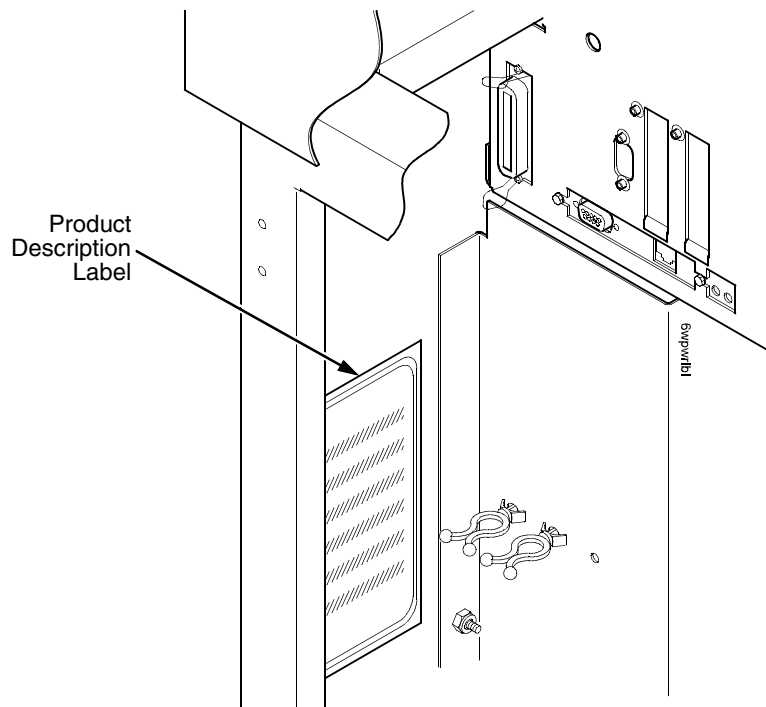

Figure 19. Product Description Label Location
1. Check the product description label to verify that the voltage source at the printer site conforms to the requirements specified on page 19. See Figure 19.